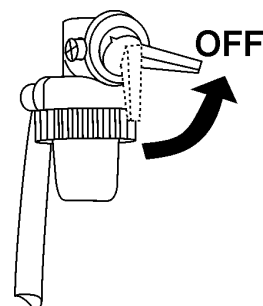

Figure 29. Engine Fuel Valve Lever (OFF)
5. Place engine fuel valve lever (Figure 29) in the **OFF** position.